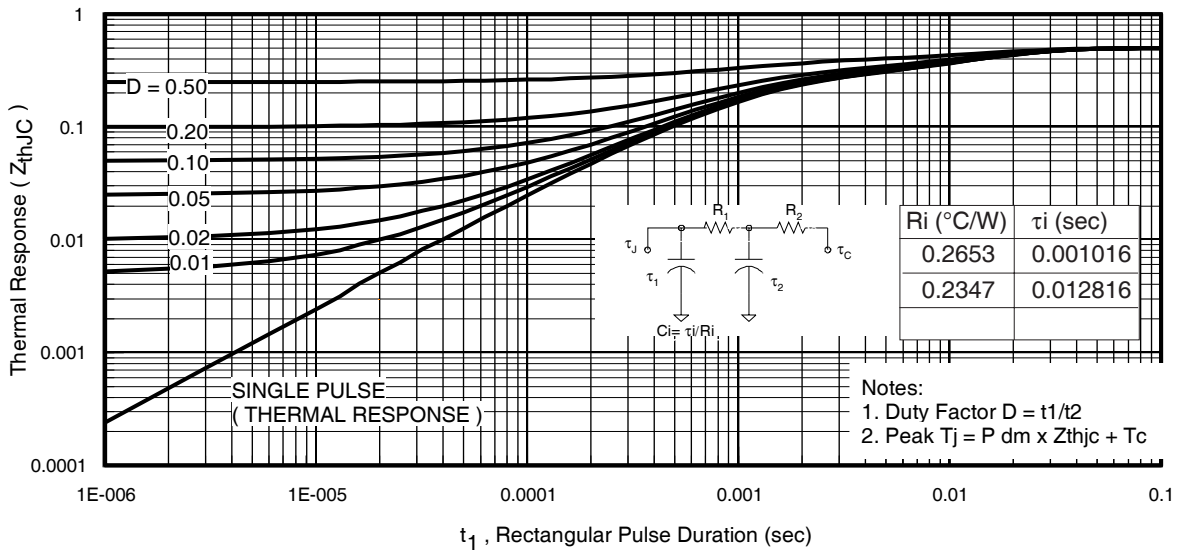
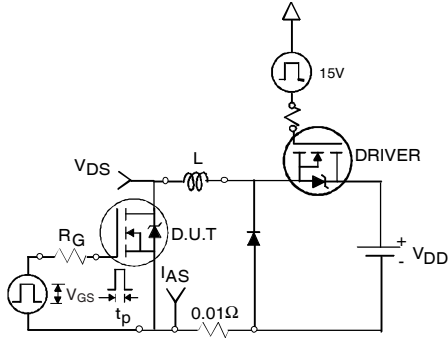

Fig 11. Maximum Effective Transient Thermal Impedance, Junction-to-Case
Fig 12a. Unclamped Inductive Test Circuit
- ① Calculated continuous current based on maximum allowable junction temperature. Bond wire current limit is 160A. Note that current limitations arising from heating of the device leads may occur with some lead mounting arrangements.
- ② Repetitive rating; pulse width limited by max. junction temperature. (See fig. 11).
- ③ This value determined from sample failure population, starting $T_J = 25^\circ\text{C}$, $L = 0.23\text{mH}$, $R_G = 25\Omega$, $I_{AS} = 75\text{A}$, $V_{GS} = 10\text{V}$.
- ④ Pulse width $\leq 1.0\text{ms}$; duty cycle $\leq 2\%$.
- ⑤ C_{oss} eff. is a fixed capacitance that gives the same charging time as C_{oss} while V_{DS} is rising from 0 to 80% V_{DSS} .
- ⑥ Limited by T_{Jmax} , see Fig.12a, 12b, 15, 16 for typical repetitive avalanche performance.
- ⑦ This is only applied to TO-220AB package.
- ⑧ This is applied to D²Pak, when mounted on 1" square PCB (FR-4 or G-10 Material). For recommended footprint and soldering techniques refer to application note #AN-994.
- ⑨ R_{θ} is measured at T_J of approximately 90°C .
- ⑩ TO-220 device will have an R_{th} of 0.45°C/W .
3. Equation below based on circuit and waveforms shown in Figures 12a, 12b.
$Z_{thJC}(D, t_{av})$ = Transient thermal resistance, see figure 11)